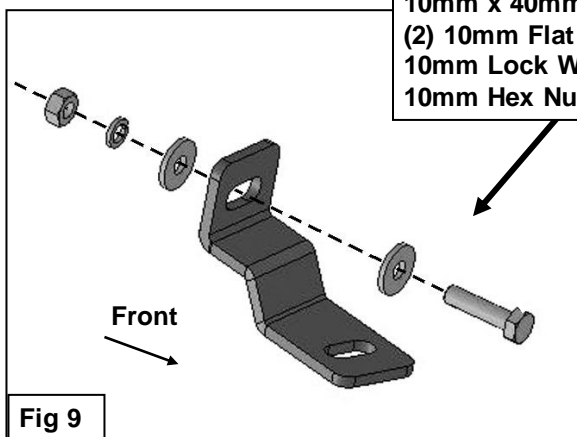

Fig 9
- b. Attach the driver side 09-12 Top Mounting Bracket to the bumper by inserting (1) 10mm x 40mm Hex Bolt and (1) 10mm Flat Washer through the Bracket and hole in the bumper, (**Figures 9 & 10**). Secure with (1) 10mm Flat Washer, (1) 10mm Lock Washer and (1) 10mm Hex Nut. Do not tighten hardware at this time.